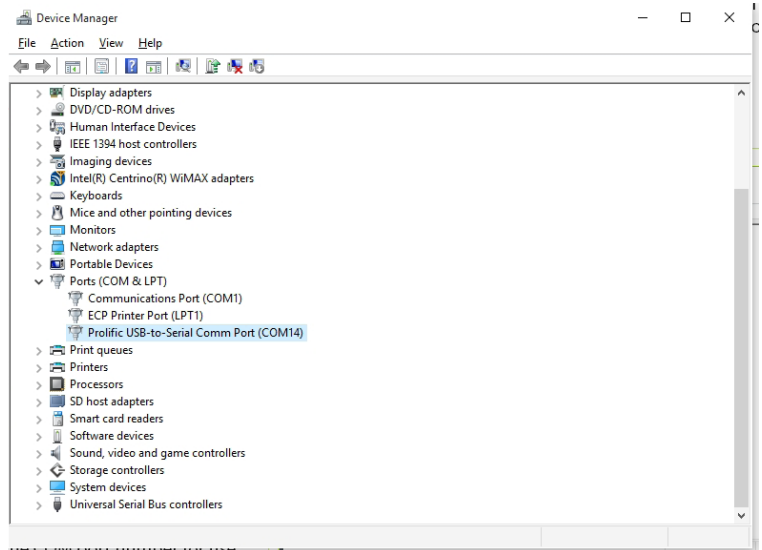

Figure 37: COM port in Device Manager window
- Find the COM port for the IR cable. The example (Figure 37) shows **COM 7** for the IR cable connected with a USB to serial adapter, "Prolific USB-to-Serial Comm Port."